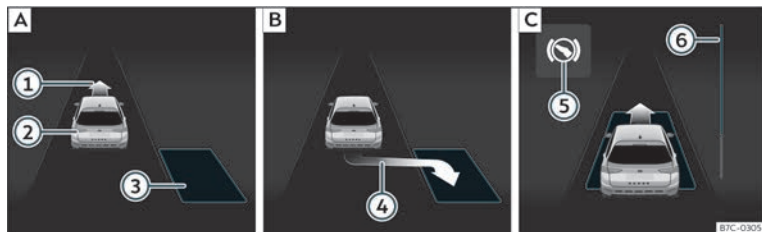
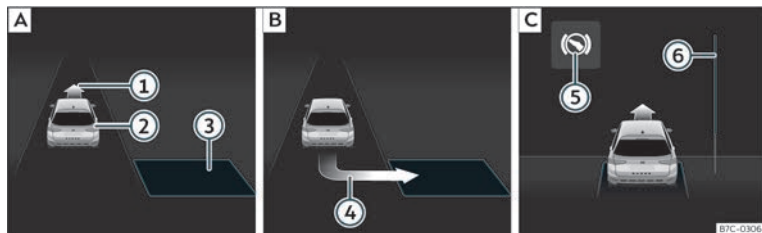

Fig. 180 On the instrument panel display: parallel parking. **A** Finding a parking space. **B** Parking position. **C** Manoeuvring.
Fig. 181 On the instrument panel display: angle parking. **A** Finding a parking space. **B** Parking position. **C** Manoeuvring.
- Look at the display on the instrument panel to see if the space has been detected as “appropriate” and if the correct position for parking has been reached»» **Fig. 180 B** or»» **Fig. 181 B**. The space is considered
- Reverse until the continuous ParkPilot signal sounds; **OR:** reverse until the indication to move forward appears on the instrument panel display >>> Fig. 180 [C] or >>> Fig. 181 [C]; **OR:** reverse until the **Park Assist finished** message appears on the instrument panel display. The progress bar ⑥ indicates the distance to cover >>> page 260 .
- Press the brake pedal until the parking assist system completes the steering wheel turns; **OR:** until the symbol ④ goes out on the instrument panel screen.
- Move forward until the continuous ParkPilot signal sounds; **OR:** move forward until the reverse indication appears on the instrument panel display. The Park Assist system steers the vehicle forward and back until it centres it in the space >>> Fig. 180 [C] or >>> Fig. 181 [C].
The progress bar >>> Fig. 180 ⑥ and >>> Fig. 181 ⑥ on the screen of the instrument panel displays the relative distance to be covered. The greater the distance, the fuller the progress bar. When driving forward, the content of the progress bar decreases upwards, and when reversing, it decreases downwards.